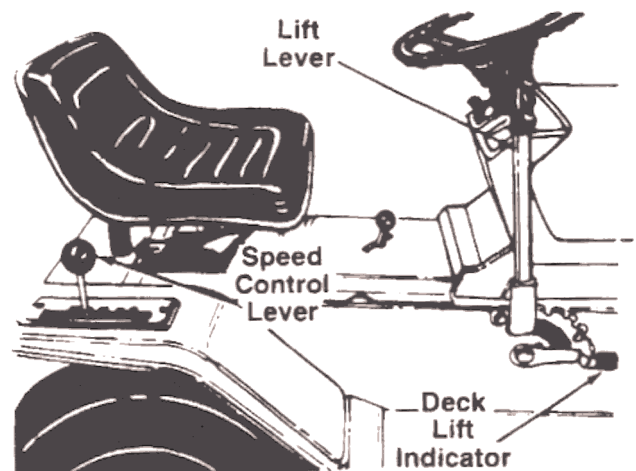

FIGURE 10.
The speed control lever allows you to regulate the ground speed of the lawn tractor. See figure 10. To select the ground speed, depress clutch pedal. Push speed control lever outward and move backward to slow lawn tractor, move forward to increase speed. When desired speed has been obtained, release lever in that position. Whenever clutch is engaged, unit will automatically go to the pre-set speed.
NOTE: The lift lever must be in the disengaged position when starting the engine, when shifting into reverse and if the operator leaves the seat. See figure 10.
The deck lift indicator marks the position being used for the lift lever. Select the lift lever position desired, press the indicator lever outward, move it to the position immediately below the lift lever and release the indicator lever. See figure 10.
3. Place the lift lever in the DISENGAGED position. See figure 10.